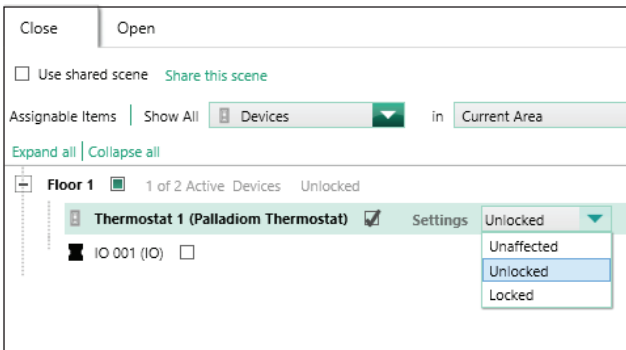

Figure 5
- Set the thermostat to be Unlocked when the door/window is Closed as shown in Figure 5.